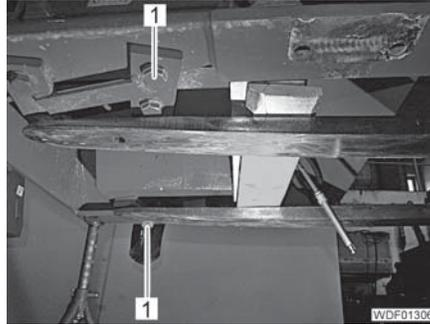

Fig. 270 Front weight attachment
- Unscrew the 4 screws (Fig. 270,1).
- Screw in 4 screws (Fig. 270,1) with washers and tighten.